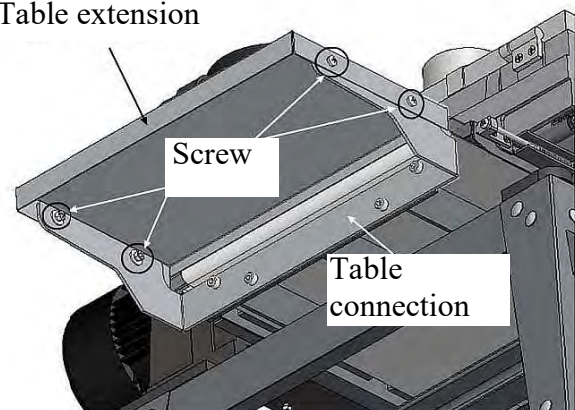

Fig. 7: Mount table extension
Step 3: Mount the table extension (Fig.7) to the feed opening of the machine with screws and washers. The height of the table extension can be adjusted by turning the adjustment screws.